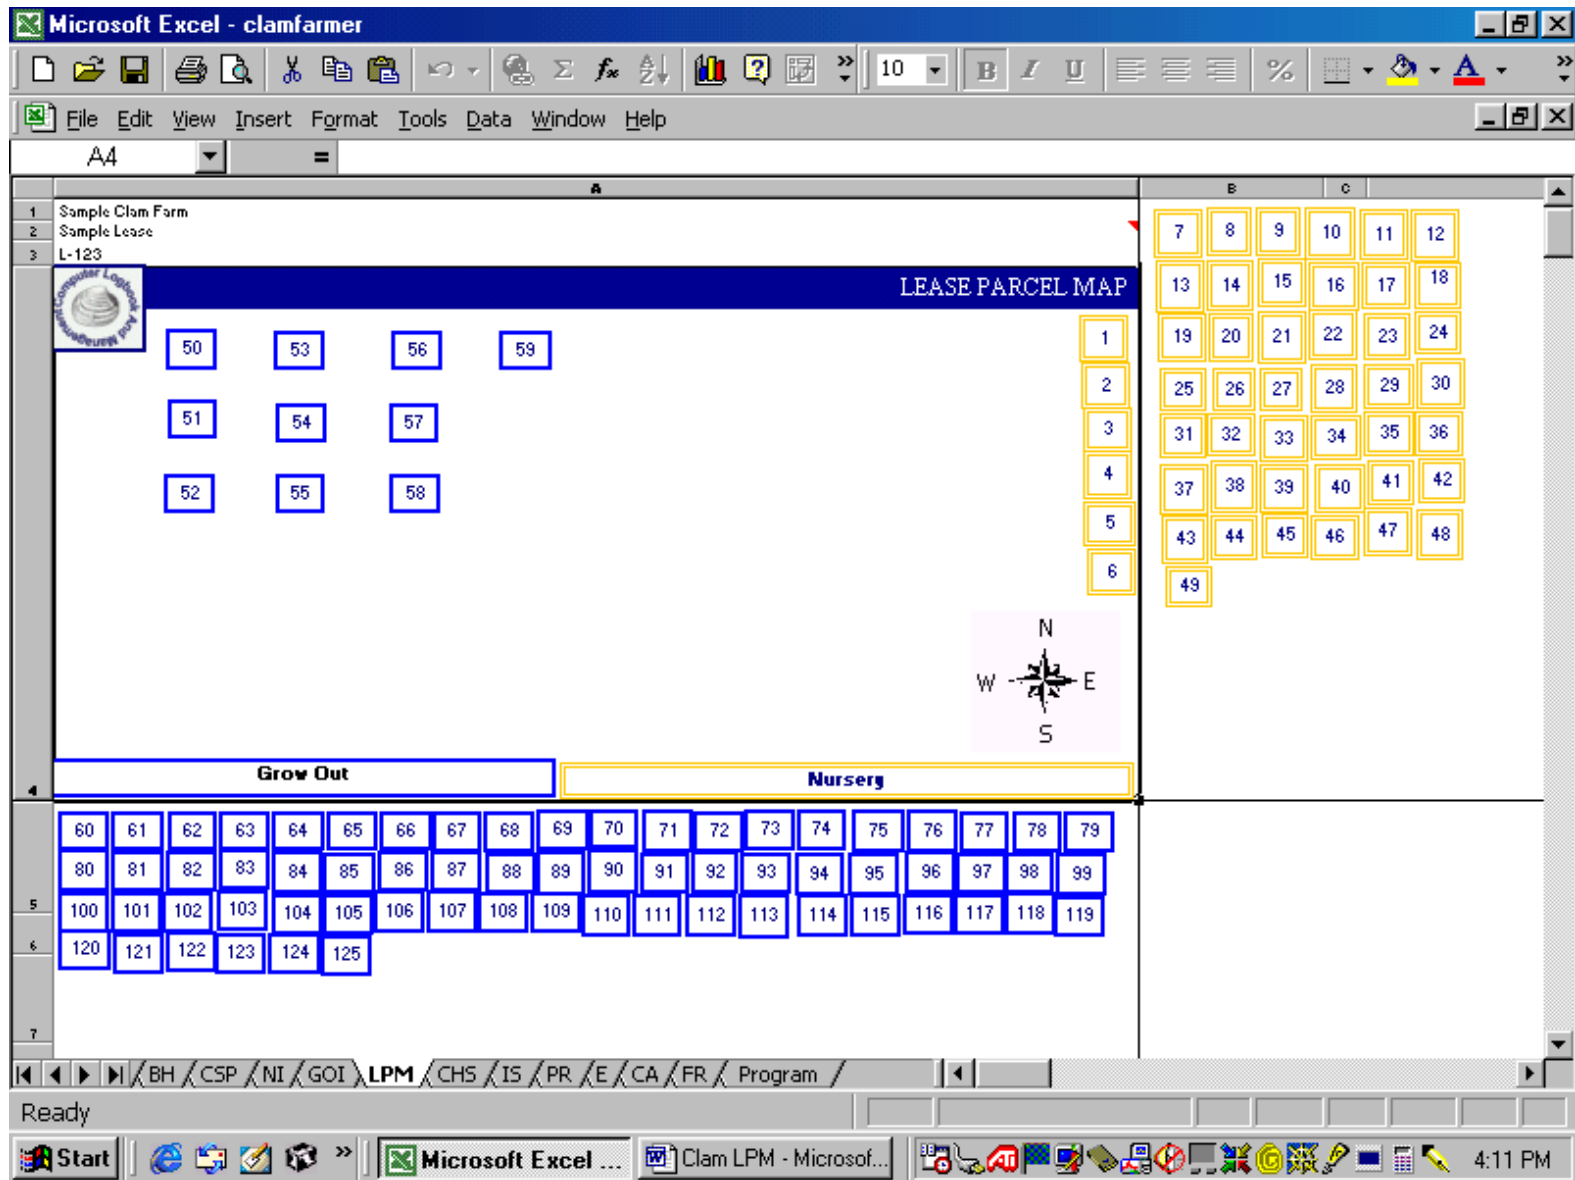

Figure 8.
**This module allows the user to position, or “site”, nursery and growout plants on the lease site as needed. (see Figure 8)**